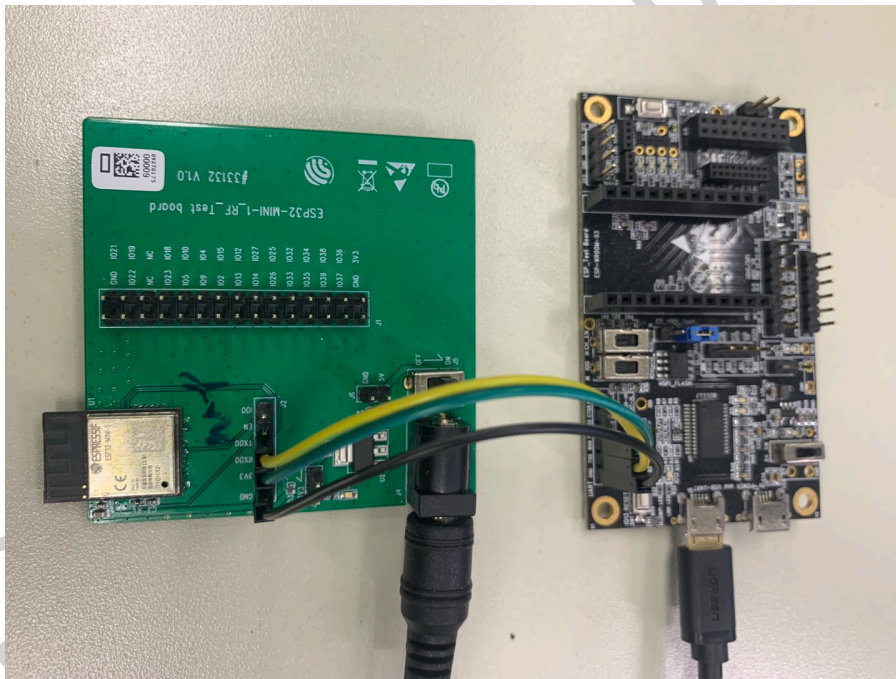

Figure 2: Hardware Connection
1. Solder the ESP8684-WROOM-03 module to the RF testing board as shown in Figure 2.